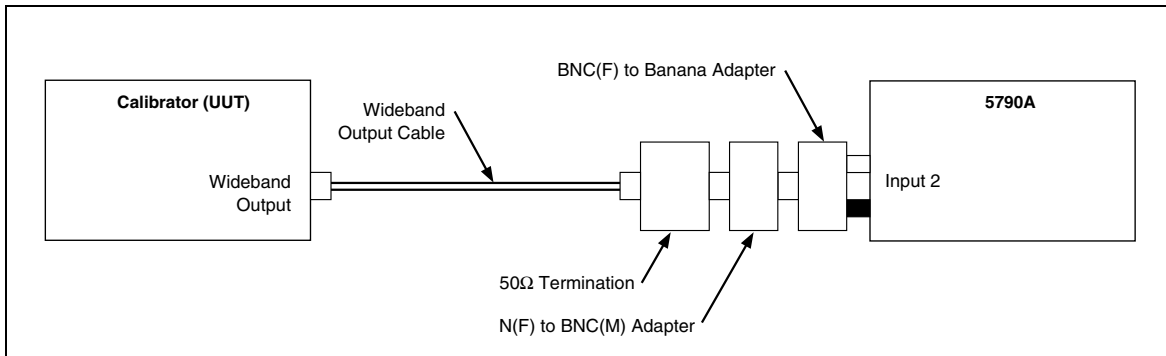

Figure 3-14. Wideband Accuracy at 1 kHz Test Setup
1. Connect the equipment as shown in Figure 3-14.